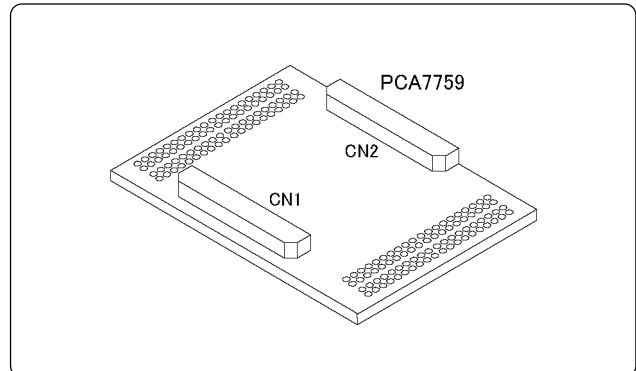

Figure 1 Package components of the PCA7759
2. Package Components (see Figure 1)